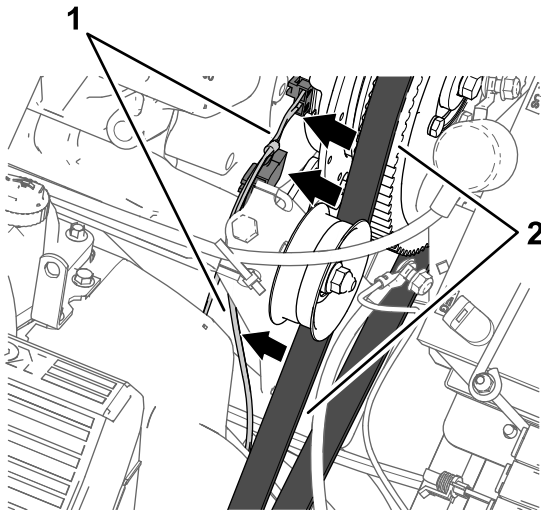

Figure 168
4. Route the wire-harness branch—84 cm (33 inches) against the engine and spray pump so that the harness has clearance from the alternator belt (Figure 168).